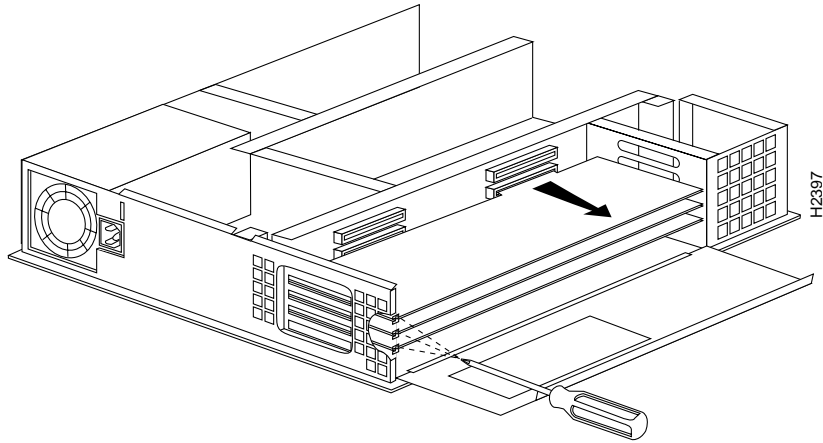

Figure 4-4 Removing the EISA Slot Cover
**Step 4** Remove the slot cover to expose the desired EISA slot. The EISA slots are numbered at the top 1, through 4. Use the slot cover screws to secure the adapter. (See Figure 4-4.)